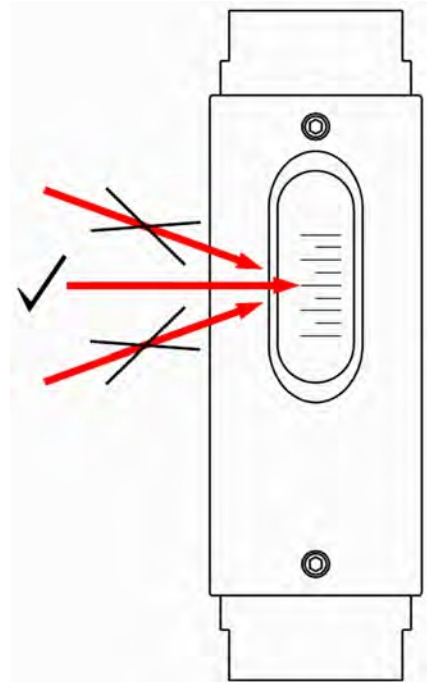

Fig. 33: Reading-off the measuring scale
2. ➔ To obtain greatest reading accuracy, read-off at eye level. (Fig. 33, middle arrow). The read-off value can be falsified by viewing at an angle